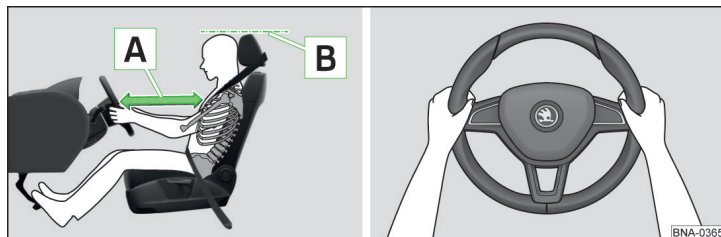

Fig. 1 Correct seated position for the driver/correct steering wheel position
- ✓ Adjust the steering wheel so that the distance between the steering wheel and your chest is at least 25 cm » fig. 1 - A.
- ✓ Adjust the headrest so that the top edge of the headrest is at the same level as the upper part of your head (not for seats with integrated headrests) » fig. 1 - B.
- When driving, hold the steering wheel with both hands firmly on the outer edge in the "9 o'clock" and "3 o'clock" position » fig. 1. Never hold the steering wheel in the "12 o'clock" position or in any other way (e.g. in the middle, inner edge of the steering wheel or similar). Otherwise, in the event of airbag deployment, you could suffer serious injury to the arms, hands and head.
- ✓ Adjust the headrest so that the top edge of the headrest is at the same level as the upper part of your head » [fig. 1 on page 10 !\[\]\(ff3bc7678b8055c91bccf1afa025cfb2_img.jpg\)](#) (not for seats with integrated headrests).
- ✓ Adjust the headrest such that the top edge of the headrest is at the same level as the upper part of the head » [fig. 1 on page 10 !\[\]\(6124eb8417e4274bba024eb35c0e9124_img.jpg\)](#).